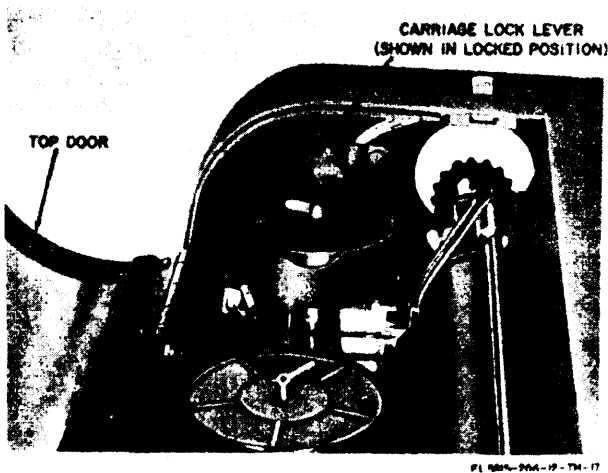

Figure 2-4. Carriage lock (TT-537/G)
e. *Carriage Lock (TT-537/G)* (fig. 2-4). The carriage lock is used to lock the type bar carriage in the extreme left-hand position during transportation. To unfasten the carriage lock, open the access window and reach under the left side of the access opening to disengage the carriage lock. Push the carriage lock lever of the rear to unlock the carriage. Close the access window.